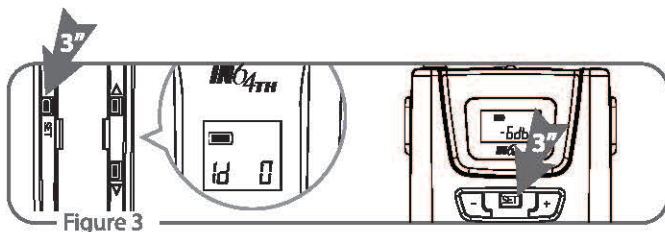

Figure 3
- (1) Press "Set" button ②① ②③ for 3 seconds, LCD Panel will start flashing.
- (2) Press "Set" a couple of times until "ID Code" setting window shows.
- (3) Press "▲Up ②② ③③" or "▼Down ②③ ③①" button to select a distinct ID code from "id 0" to "id 99". (Figure 3)
- (4) After setting, press "Set" again to save the settings.